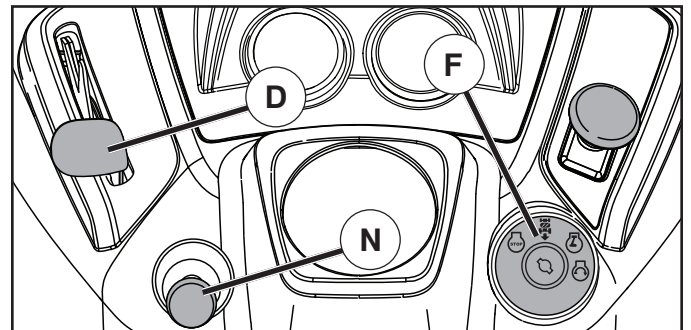

Fig. 22
TO USE THROTTLE CONTROL (D) (See Fig. 22)
TO USE CHOKE CONTROL (N) (See Fig. 22)